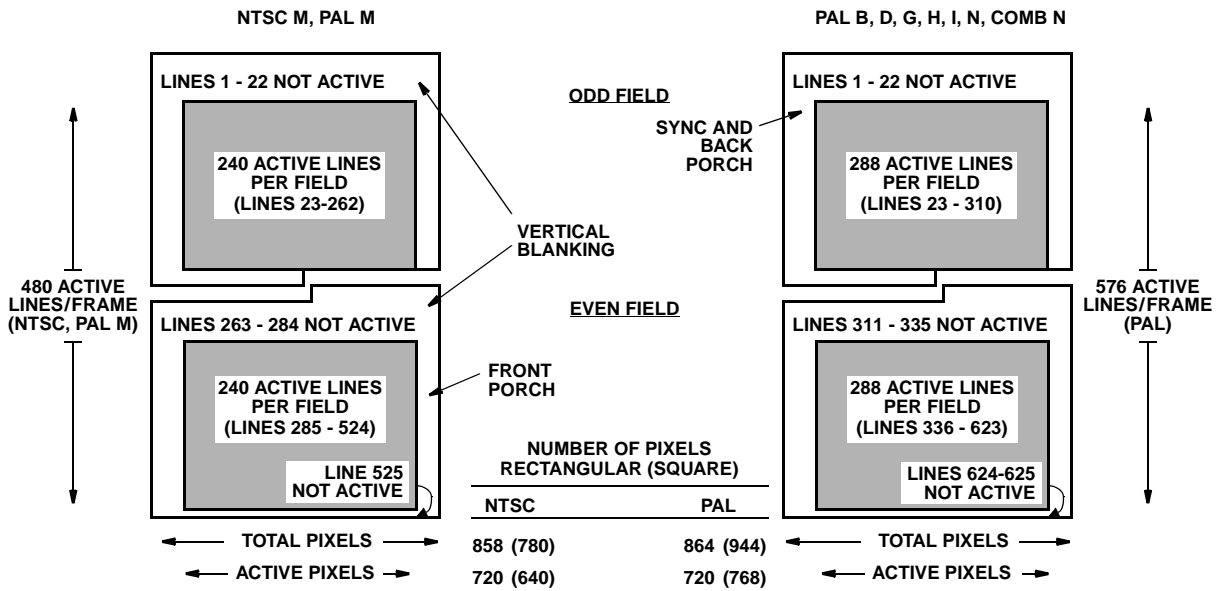

FIGURE 13. ACTIVE VIDEO REGIONS
In 16-bit Pixel Transfer Mode pixel data is output at the CLK frequency and Table 3 shows the number of data points per video line to expect for a given standard. Data is output as 4:2:2 subsampled data in a Y-Cb/Y-Cr 16-bit sequence. The Data Valid (DVLD) flag is asserted when video data is present on the 16-bit output port (Y[7:0], CbCr[7:0]). The luminance data is output on Y[7:0] bus. Chrominance data is sequenced on the CbCr[7:0] bus, starting with Cb and then Cr. Per Figure 13, the ACTIVE flag is asserted when the active video portion of the horizontal scan line is present on the data output port. See Figure 14 for 16-Bit Pixel Transfer Mode timing. DVLD is asserted every time the output sample rate converter has a valid output. When DVLD and ACTIVE are used together the visual portion of the image can be captured. When DVLD is used alone all valid data during the Horizontal, Vertical and Reference Burst Timing are available.
2. ACTIVE is asserted per Figure 13.
6. \overline{DVLD} is asserted for every valid pixel during the active region only per Figure 13. \overline{DVLD} may deassert briefly during the active video region as the Output Sample Rate converter adjusts the output timing for various data rates and clock frequency inputs.